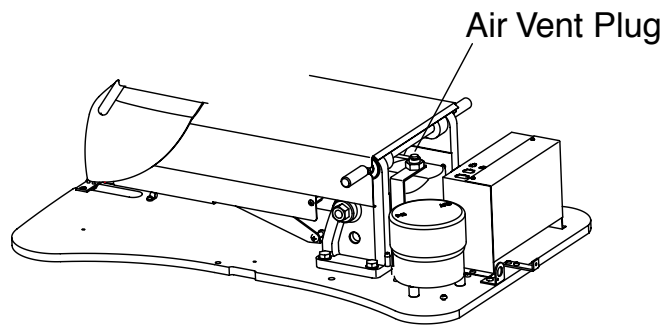

Figure 7
11) Locate the red warning tag which is attached by a string to the rubber air vent plug in the pump reservoir. Normally a brisk tug on this tag will release the plug without the need to open the pump covers. (See Figure 7)